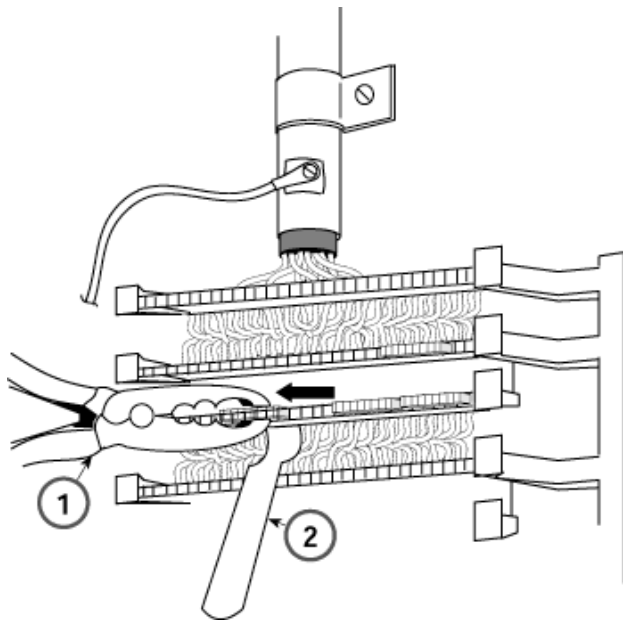

Figure 3-16. Removing the Connecting Block
2. Place a 788K1 retainer tool against the conductor pairs beneath the connecting block to be removed. See Figure 3-16.
3. Use pliers to grip the connecting block in the center. See Figure 3-16.